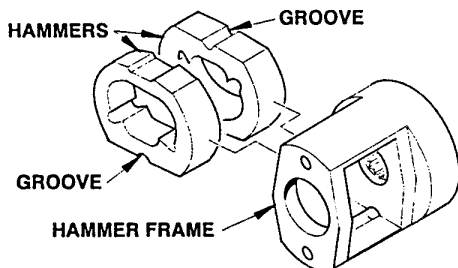

Figure 1.
4. See figure 1. Place the hammers side-by-side in the hammer frame. The two hammers are identical, but must be installed with the grooves opposite each other. Place the hammer frame assembly on the main shaft.